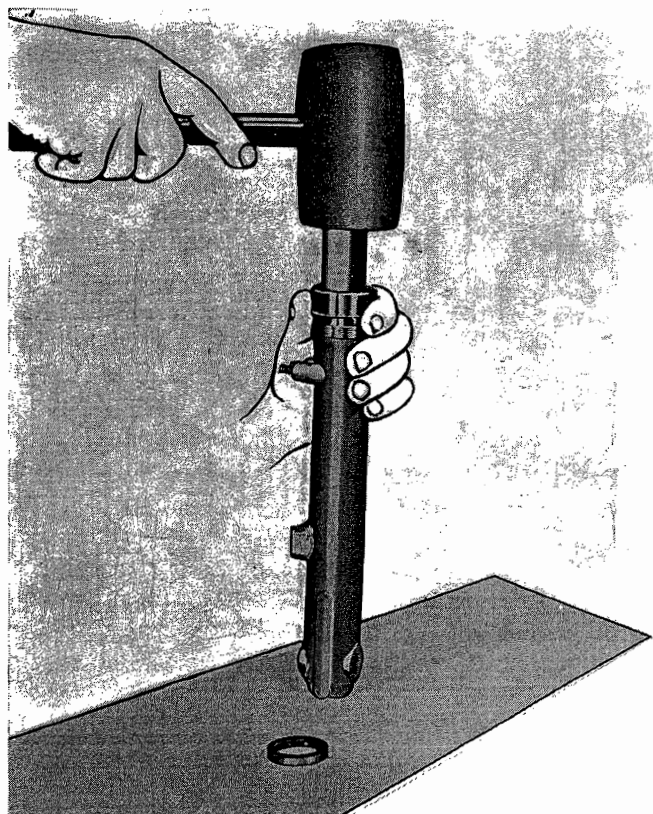

Fig. 110
Fit the sealing ring (31) using a punch (as shown in Fig. 110), tapping the end of the punch with a wooden mallet.